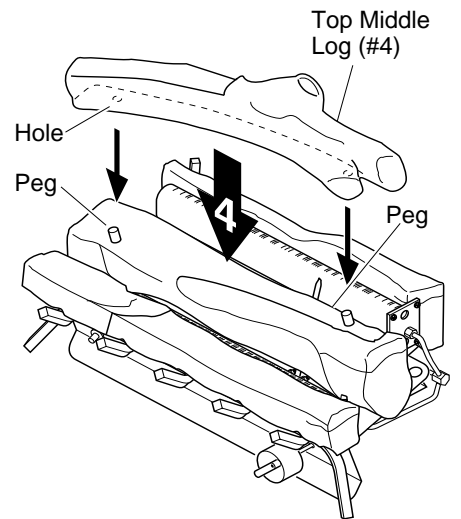

Figure 19 - Installing Top Middle Log (#4)
4. Place the top middle log (#4) on the bottom middle log (#2). Make sure the pegs of the bottom middle log fit securely in the holes of the top middle log (see Figure 19).